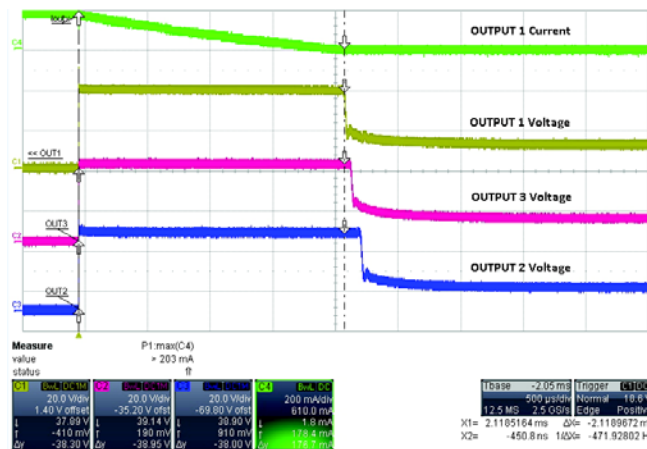

Figure 3. Repetitive Clamping Energy Test
***2M pulses (triangular), VS = 15 V, 63 Ω , 390 mH, T_A = 25°C. (See Figure 3)